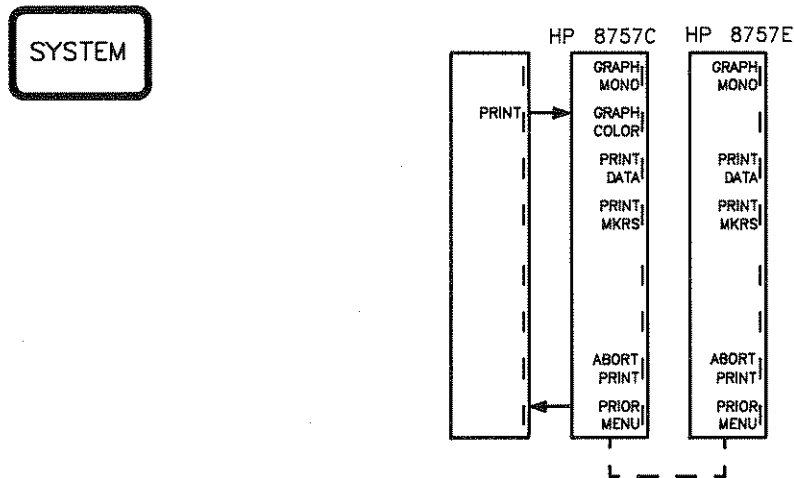

Figure 21. Print Menus
**[PRINT]** presents the print menus. The print menus are shown in figure 21. **[PRINT]** allows you to print data to a printer capable of generating a graphics plot or tabular listings. The analyzer is designed to be compatible with the HP 2255A ThinkJet, the HP 3630A PaintJet, and the HP 2227B QuietJet Plus. Other Hewlett-Packard printers not listed here may also be compatible with the analyzer. Pressing the **[PRINT]** softkey presents the print menu.